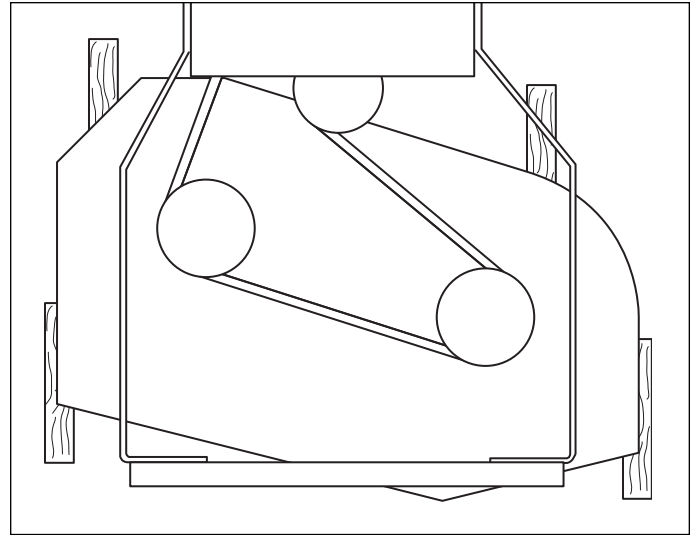

Figure 14. 2 x 4 Block Placement
3. If the mower deck is in the HIGH RANGE, place 2 x 4 blocks under the outside edges of the mower deck with the 3-1/2" sides being vertical. Place a 1/8" (3mm) thick spacer on top of the rear 2 x 4 blocks. (See Figure 14)
If the mower deck is in the LOW RANGE, place 2 x 4 blocks under the outside edges of the mower deck with the 1-1/2" sides being vertical. Place a 1/8" (3mm) thick spacer on top of the rear 2 x 4 blocks. (See Figure 14)